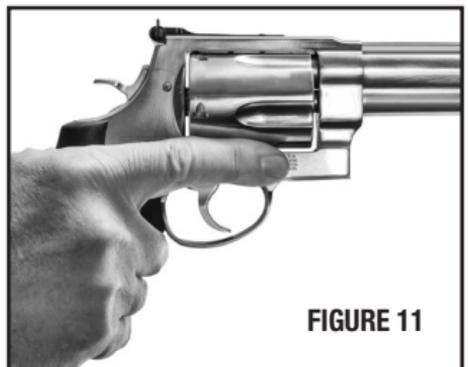

FIGURE 11
- Grasp the revolver in the shooting hand with your finger still outside the trigger guard (FIGURE 11).